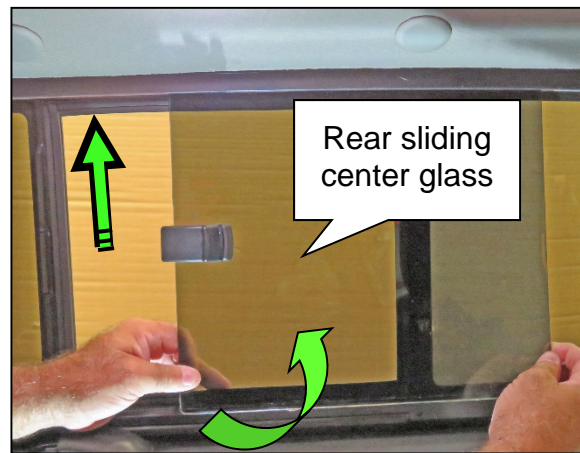

Figure 6
- Lift the rear sliding center glass up, and then tilt the bottom toward you (Figure 6).